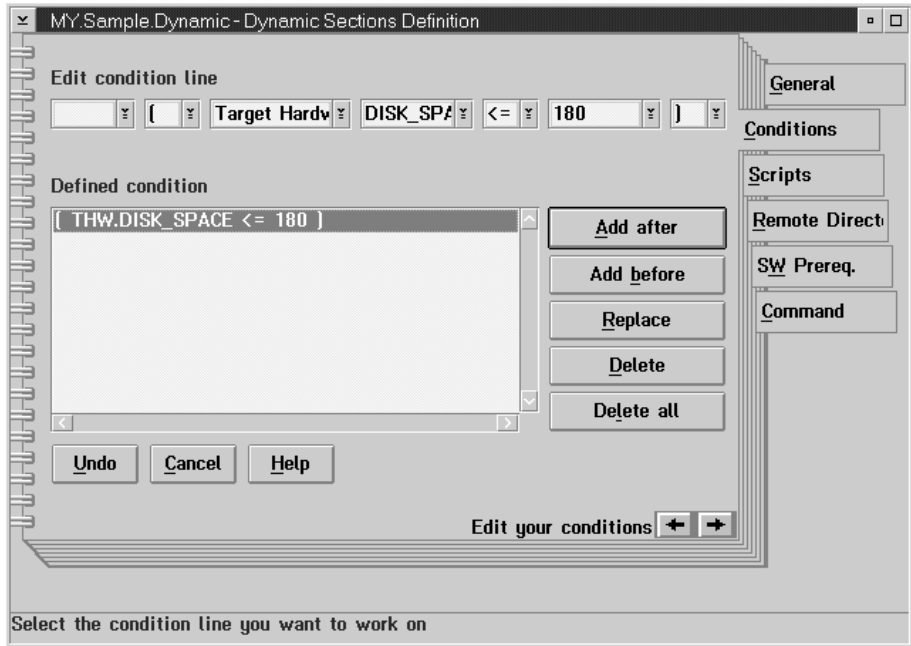

Figure 88. Dynamic sections definition notebook: conditions page
- 9** Click on the **Conditions** tab. The Conditions page is displayed, as shown in Figure 88 on page 176.
- 10 Fill in the entry fields contained in the Edit condition line group to define the first condition (DRIVE_SIZE < 180M), as shown in Figure 88.